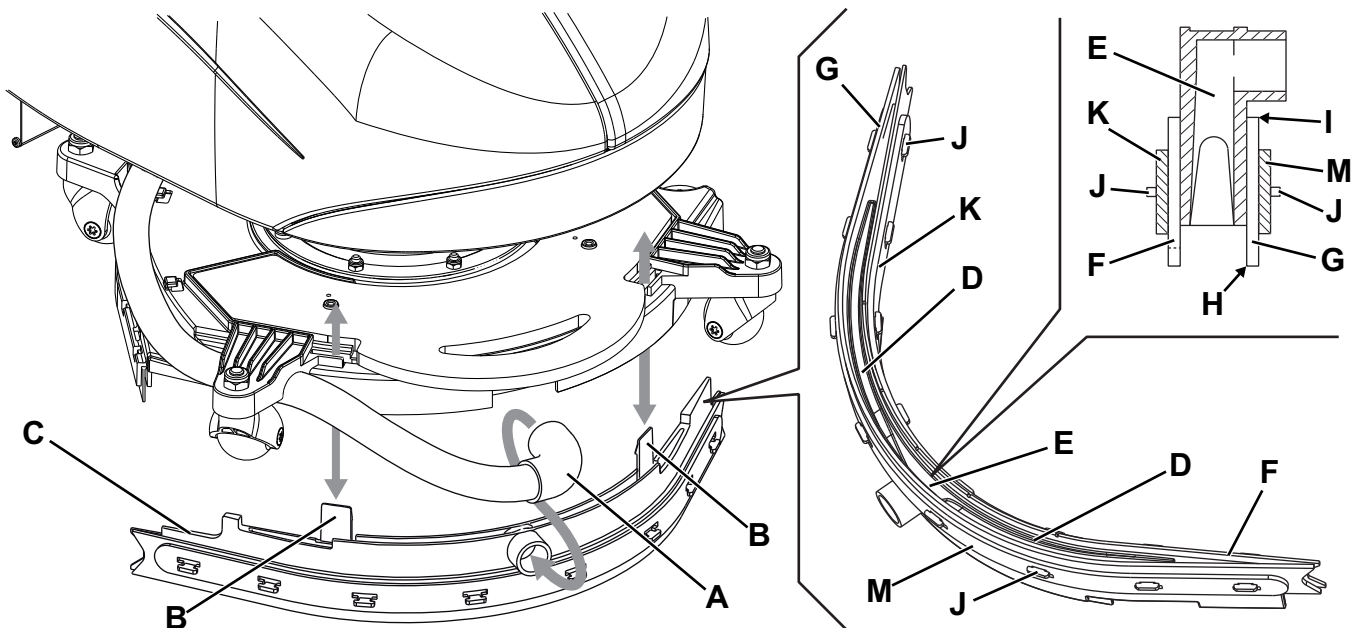

Figure 5
2. Turn the knob (32) to "0" and disconnect the battery.
3. Fully turn the brush/pad-holder deck (12) counter-clockwise.
4. Disconnect the vacuum hose (A, Fig. 5) from the squeegee.
5. Disengage the fasteners (B) and remove the squeegee (C).
6. Wash and clean the squeegee. In particular, clean the compartments (D) and the vacuum hole (E) from dirt and debris.
7. Check the front blade (F) and the rear blade (G) for integrity, cuts and tears; if necessary replace them (see the procedure in the following paragraph).
2. Check the front blade (F, Fig. 5) and the rear blade (G) for integrity, cuts and tears; if necessary replace them as shown below. Also check the front corner (H) of the rear blade for wear; if it is worn, overturn the blade to replace the worn corner with the other one (I), if it is integral. If the other corner is worn too, replace the blade according to the following procedure:
- Remove the blade by disengaging the fasteners (J), the fastening strap (K or M), then replace (or overturn) the blade (G or F).
3. Install the squeegee (C) by installing the fasteners (B) in the relevant brush deck housings.
4. Connect the vacuum hose (A) to the squeegee.